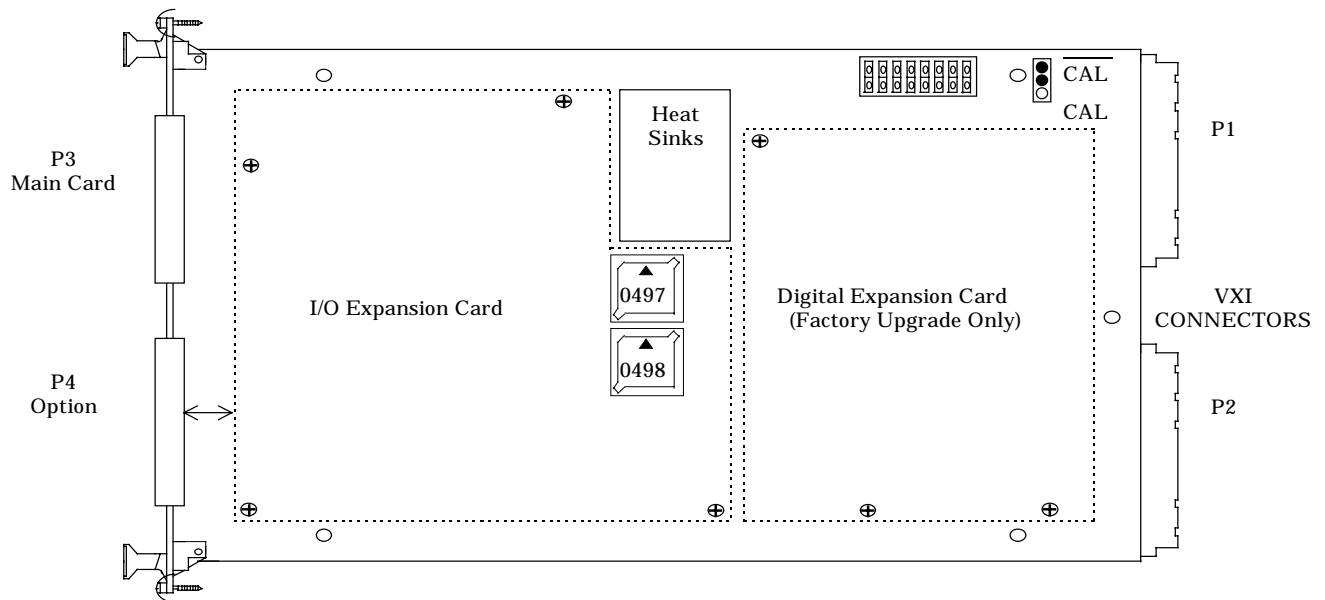

Figure 3 - V213 Upgrades and Strap Locations
Refer to figure 3 while installing the field upgrade of the I/O expansion card.
- 2.) Carefully remove the current PROMs using an extraction tool for 32 pin PLCC devices. Install the new PROMs according to figure 3. Pay special attention as to which IC goes into which socket and its orientation. Once placed in the socket, pin one of the IC should face toward the top of the board and the label should be right-side up.